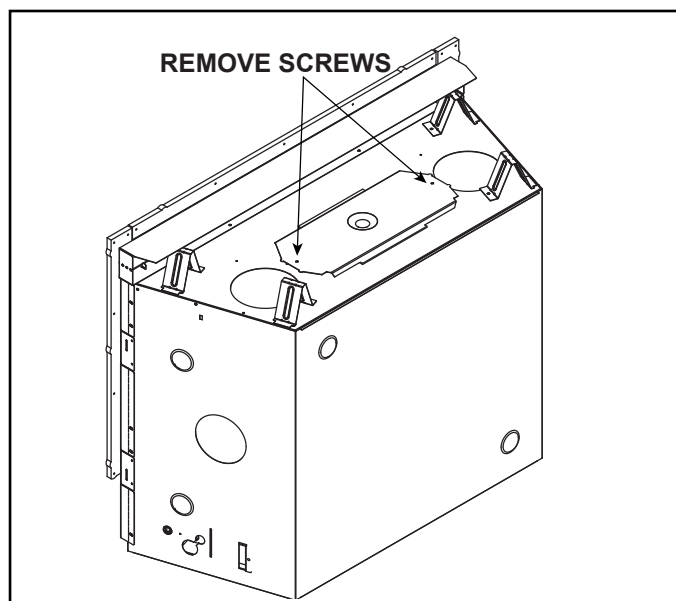

Figure 6.1 RAVE42-IFT-B / RAVE36-IFT-B - Shipping Position
1. Remove two screws and discard. See Figure 6.1.